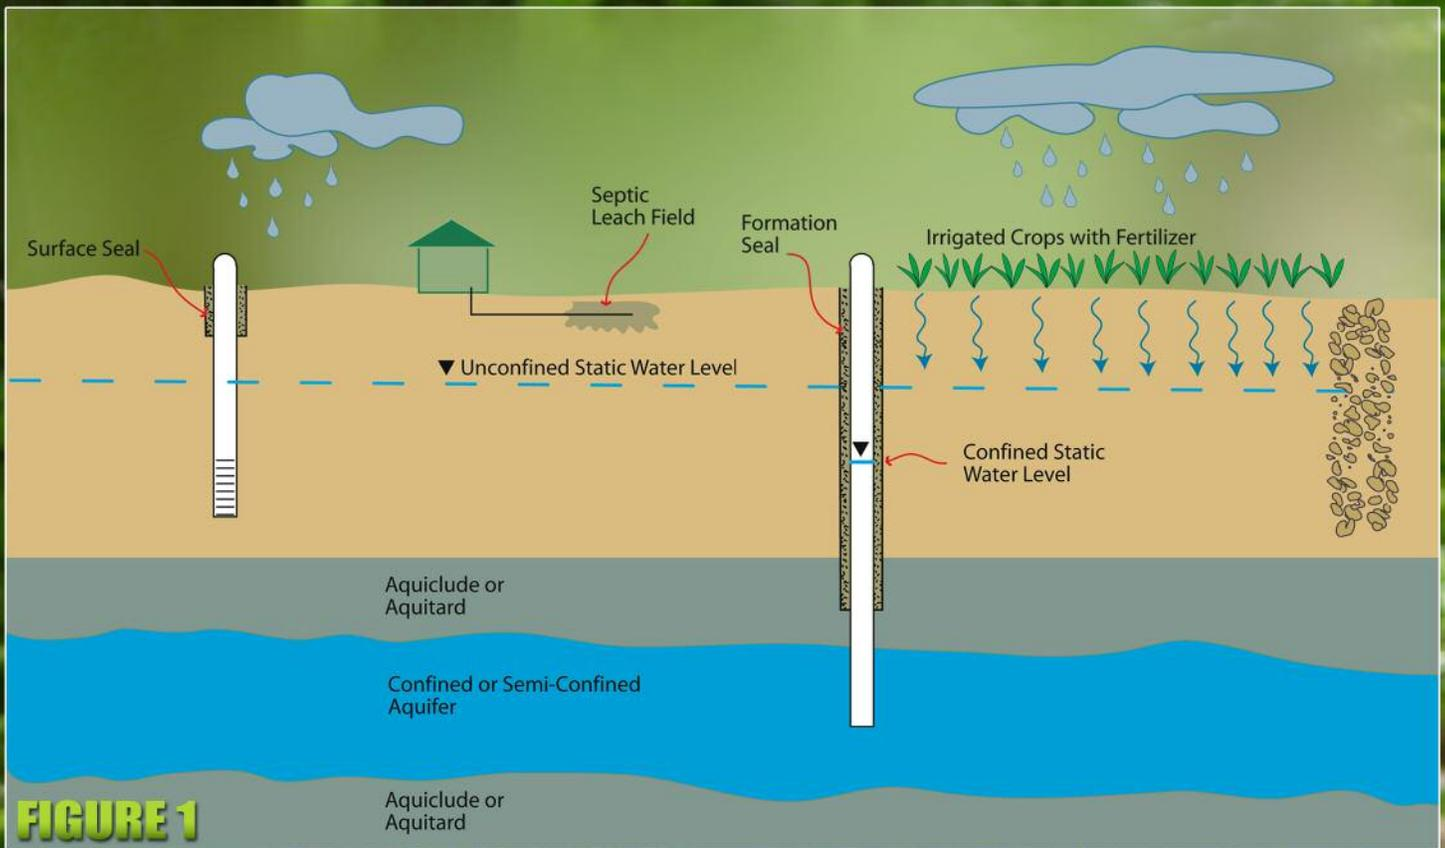

FIGURE 1
- Three basic types of aquifers (storage and flow) are generally considered (see Figure 1). The operator must understand the differences between these types of aquifers and how they impact the source assessment and protection. The testing, analysis, geochemistry, delivered water chemistry, and recharge vary significantly between types of aquifers.
If an unconfined aquifer exists, it will always be above both semi-confined and confined aquifers. (See Figure 1.) Imagine a lake filled with gravel to 10 feet *above* the water surface. An unconfined aquifer would be created. The top of the groundwater table is at atmospheric pressure exactly as it existed for the former lake. A groundwater well, placed in the deepest part of the former lake, enjoys access to more groundwater than a well placed near the shallow banks of the former lake.
A semi-confined aquifer (see Figure 1) receives some groundwater contribution from an aquitard. The aquitard may be above, below, or both above and below the aquifer. The semi-confined aquifer designation is somewhat relative. For example, a clean, coarse sand in an aquifer may be bounded by a sandy silt. If the sandy silt flows enough groundwater, vertically, to the coarse sand aquifer to affect the flow properties of the aquifer, then it is semi-confined. Furthermore, the silty sand may also provide a vertical connection with an unconfined aquifer above. A pump test, along with a review of the geology, helps to determine if an aquifer is semi-confined, unconfined, or confined.
Confined aquifers (see Figure 1) differ considerably in the mechanics of groundwater delivery to the well. Recharge to these aquifers is very slow compared to unconfined aquifers. In many cases, using groundwater from confined aquifers is “groundwater mining,” because the recharge is so slow.